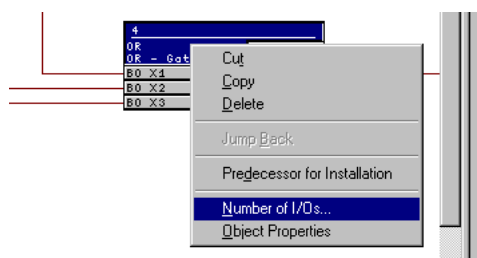

Figure 5-34 Example of an OR Lattice: Module Menu
The default run-time sequence is determined by the sequence of the insertion of the logic modules. You may redefine the run-time sequence by pressing Ctrl – F11 on the PC keyboard. Please refer to the CFC manual. The necessary function modules (FM) are contained in a library located to the right of the configuration chart. The module also indicates to which of the four task levels (MW_BEARB, PLC1_BEARB, PLC_BEARB, SFS_BEARB) it is assigned. The modules possess at least one input and one output. In addition to these inputs and outputs, which are displayed on the configuration sheet, a module may have additional inputs. The additional inputs can be made visible by selecting the module title block, pressing the *right* mouse button, selecting the menu option **Number Of I/Os...** (see Figure 5-34), and then increasing the number.